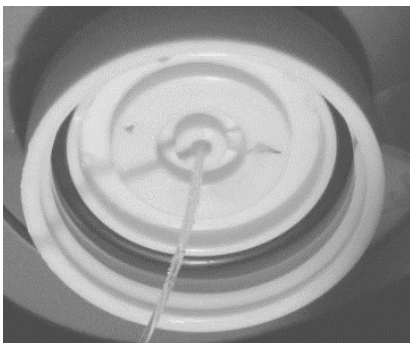

Figure 22 Rinse bottle cap with o-ring correctly positioned
- 3 Ensure that the o-ring in the bottle cap is in position and correctly seated, as shown in Figure 22.